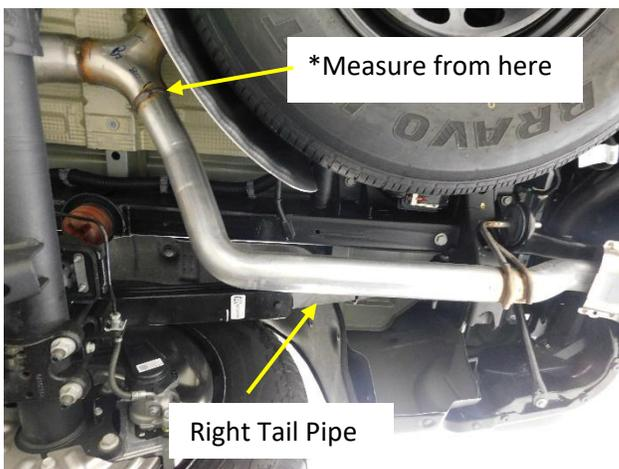

Figure.1
4. Cut the Right tail pipe at the location in **Fig. 1/ Fig.2**
- Remove the 15mm bolt from the right tail pipe isolators and remove the tail pipe and isolator. **Fig.1/2**